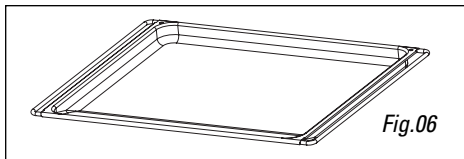

Fig.06
- **The enamel tray (Fig.06):** It may be used half filled with water for "bain marie" cooking or fan cooking. It may also be used as a cooking dish.